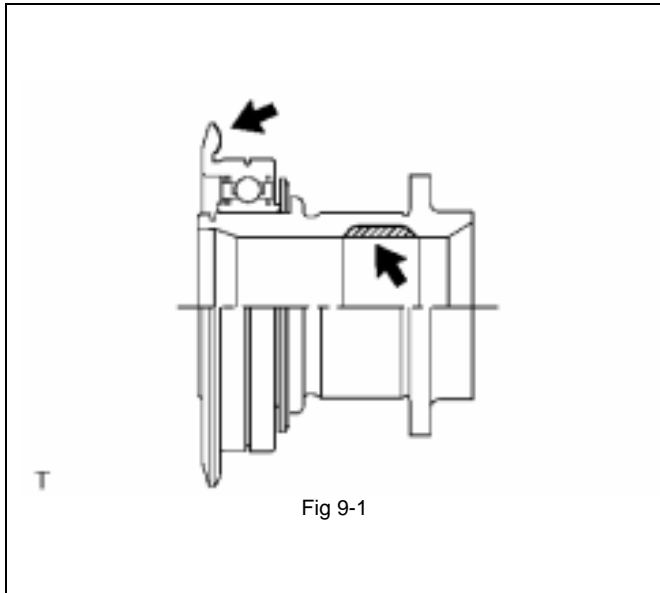

Fig 9-1
- (a) Fill the groove inside the release bearing hub with grease. (Fig 9-1)